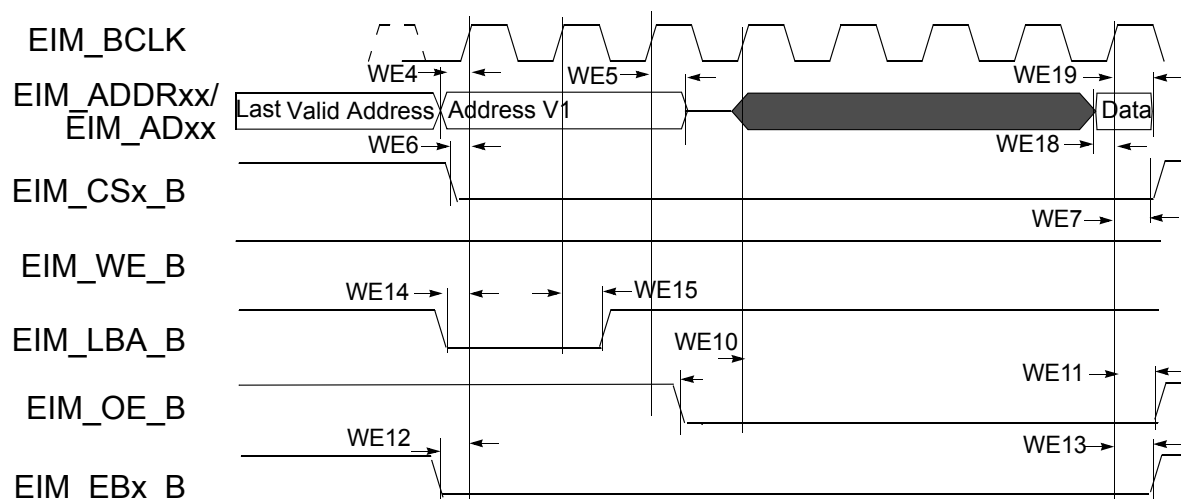

Figure 17. 16-Bit Muxed A/D Mode, Synchronous Read Access, WSC=7, RADVN=1, ADH=1, OEA=0
- Figure 14 to Figure 17 provide few examples of basic EIM accesses to external memory devices with the timing parameters mentioned previously for specific control parameters settings.